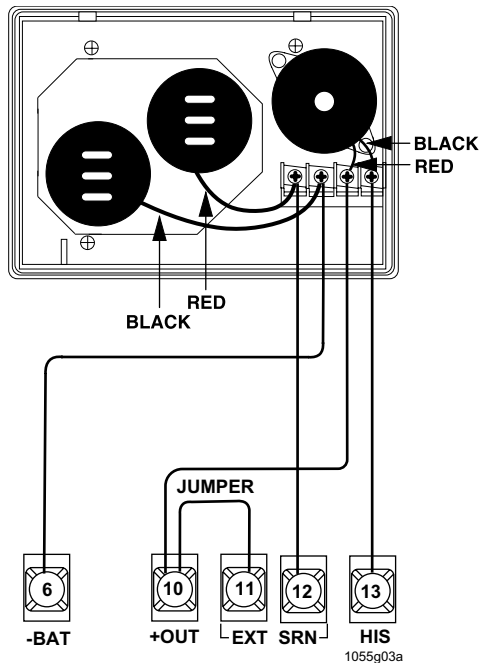

Figure 1. Wiring from the Siren to the SX-V
1. Connect the dual piezo wires to the two left screws and the single piezo wires to the two right screws (see Figure 1).
2. Make wiring connections between the siren and the panel as shown in Figure 1.